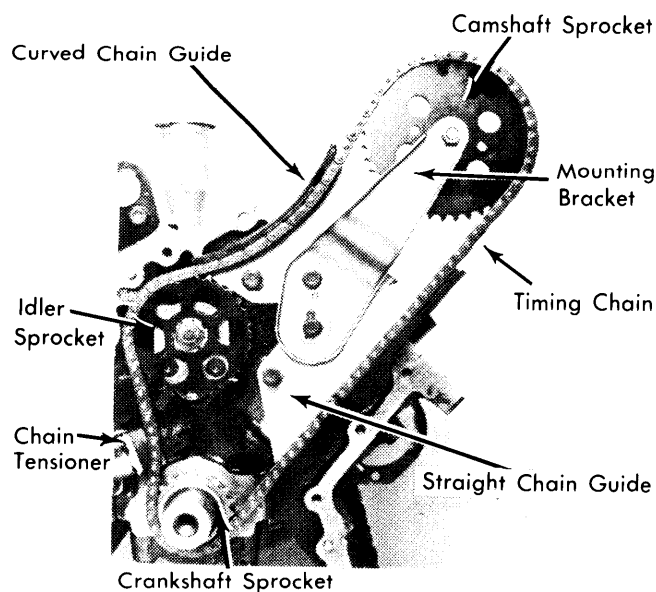

Fig. 4 Front View of Timing Chain Installed and Tightened
7) Place timing chain over crankshaft and idler sprockets so chain will be in a straight line between camshaft and crankshaft as shown in Fig. 4. Do not change any of the sprocket settings while installing chain.